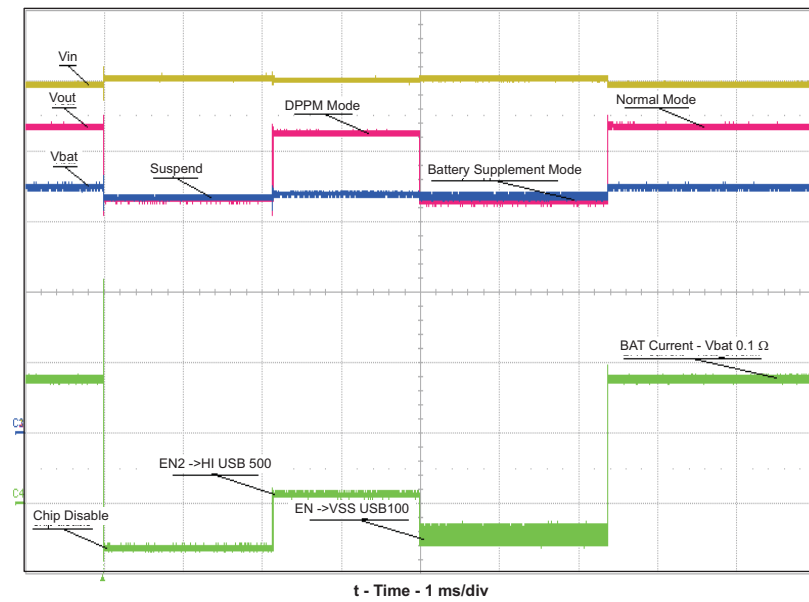

Figure 2. Modes of Operation Tested in Steps 11 Through 13
10. Set JMP5 (EN1) to HI, and verify that the chip has been disabled, D1 (CHG) has turned off, and the PS#1 current has dropped to zero. The internal battery FET must be on, connecting the BAT pin to the OUT pin. Verify that the voltage on the OUT pin is close to the battery voltage. See Figure 2 for EN1 and EN2 modes of operation.